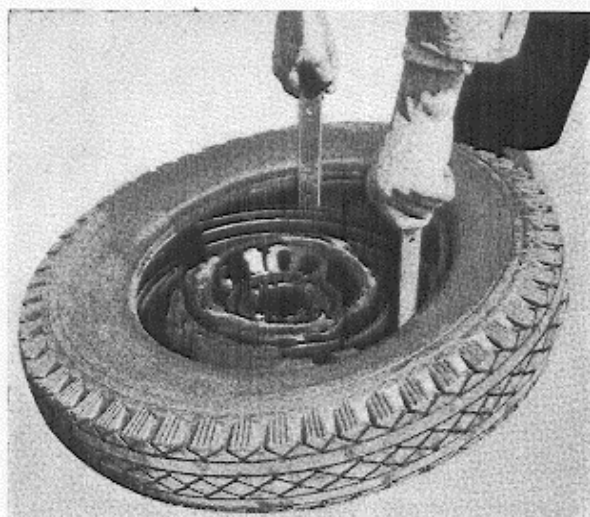

Fig. 22. Fitting the tyre, lower part.
2. Lay the wheel on the floor with the outside, upwards and then lay the tyre with its size designation upwards. Force on the lower side of the tyre with the assembly tools, (Fig. 22).